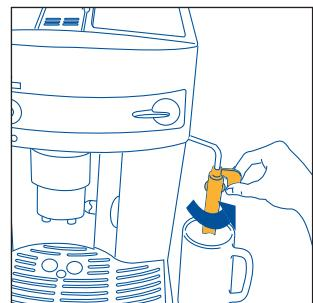
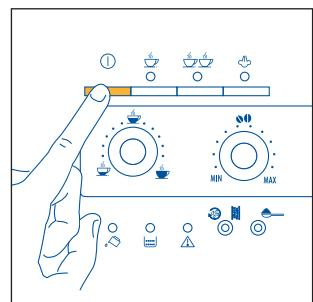

Fig.3
Fig.4
2. Move the milk frother towards the outside and place a cup underneath (Fig.3). Then turn the machine on by pressing the **I** button (Fig.4).
- Turn the milk frother towards the outside of the machine (Fig. 3).
- Position a container underneath the milk frother (Fig. 3).
- Move the milk frother towards the outside (Fig. 3).